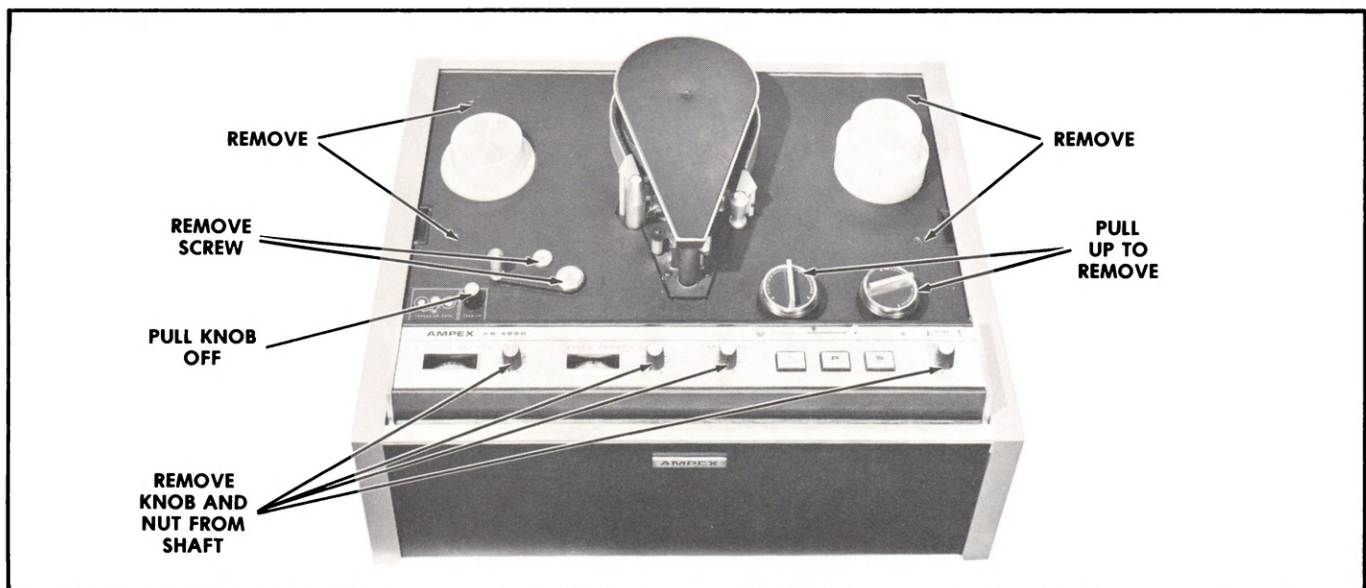

Figure 5-1. Removing Transport Cover Panel
4. Remove the four Phillips screws that secure cover plate to transport. (See Figure 5-1).
5. Remove the tension arm and tension arm stop. Each has a single Phillips head screw. (See Figure 5-1).